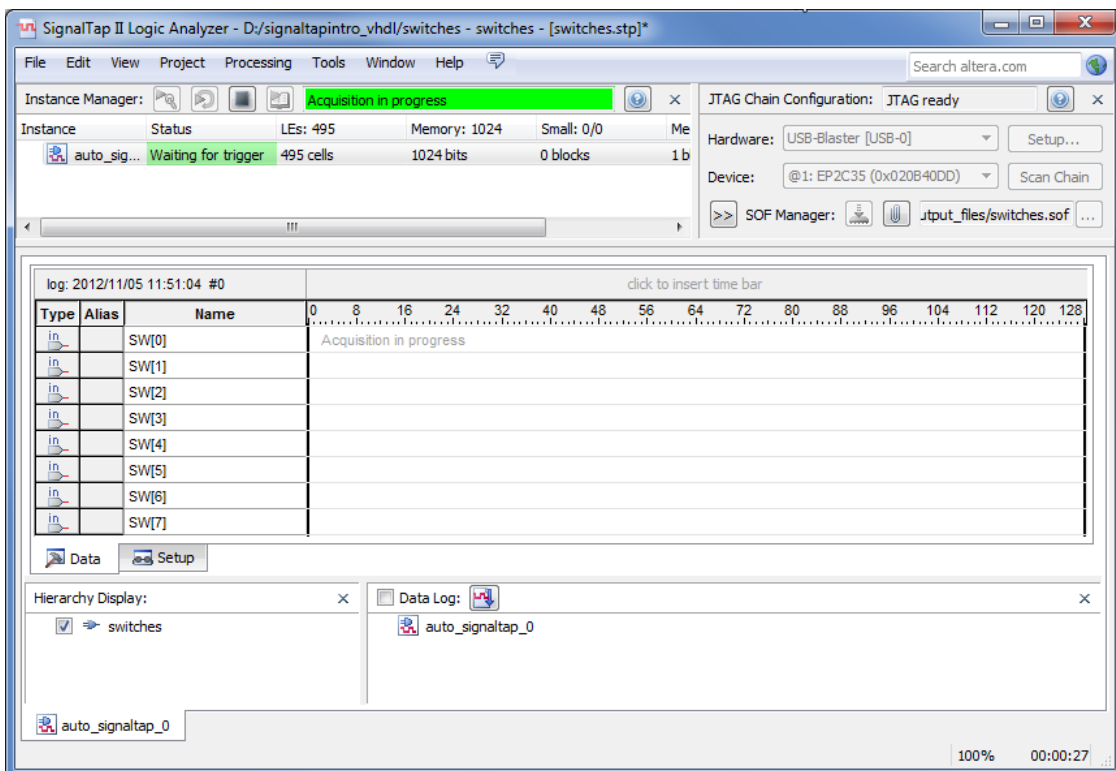

Figure 12. SignalTap II window on a DE-series board after Run Analysis has been clicked.
2. In the SignalTap window, select **Processing > Run Analysis** or click the  icon. Then, click on the **Data** tab of the SignalTap II Window. You should get a screen similar to Figure 12. Note that the status column of the SignalTap II Instance Manager pane says "Waiting for trigger." This is because the trigger condition (Switch 0 being high) has not yet been met. (This is of course if Switch 0 is actually low as instructed in the previous step. If it is not, set it to low and then click Run Analysis again).